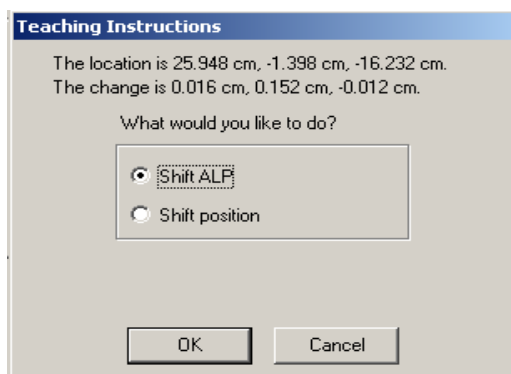

Figure 10. New coordinates for the Orbital Shaker ALP.
- 2.24 Frame the Orbital Shaker ALP. Once the window appears which provides the new coordinates, an example of which is shown in Figure 10, decide whether or not the new coordinates should be adopted. In the example shown in Figure 10, the y-coordinate is greater than 0.025 cm which would normally merit accepting the new coordinates, however, the y-axis coordinate was manually adjusted instead of adjusting an offset in order to accommodate plate movement onto the Orbital Shaker. Before accepting new coordinates for the Orbital Shaker, be certain that no manual adjustments to the framing coordinates were made.